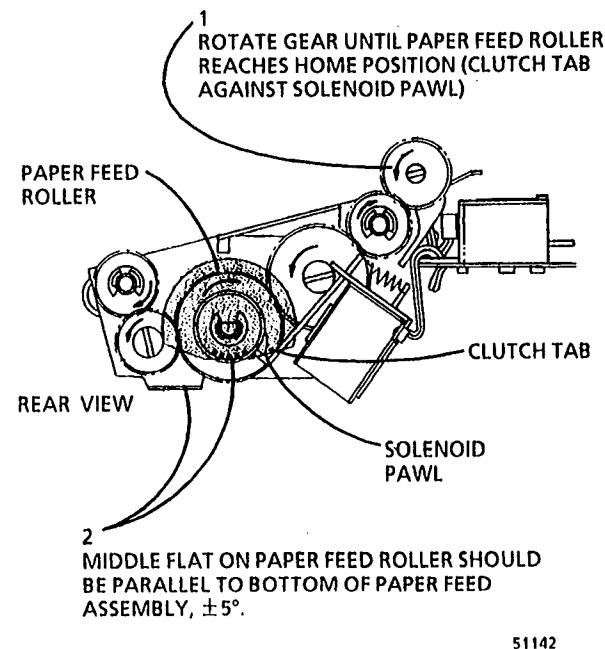

Figure 1. Checking the Paper Feed Roll Home Position Alignment
2. (Figure 1): Check the paper feed roll home position alignment. If the check is not satisfactory, perform the adjustment.